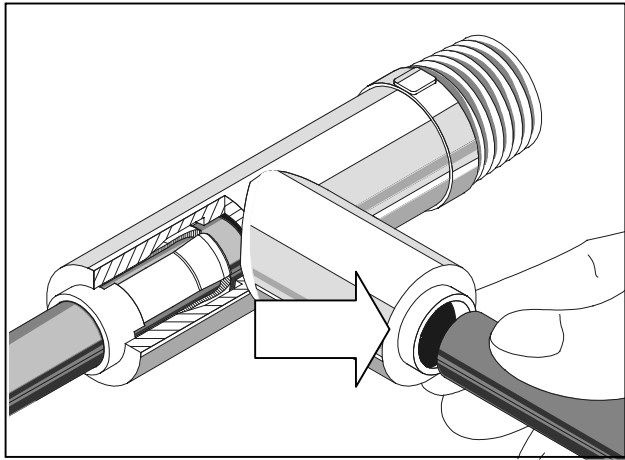

Figure 6: Assembling push-in fittings
- 2) Insert the end of the tubing, until it bottoms in the fitting (see Figure 6).